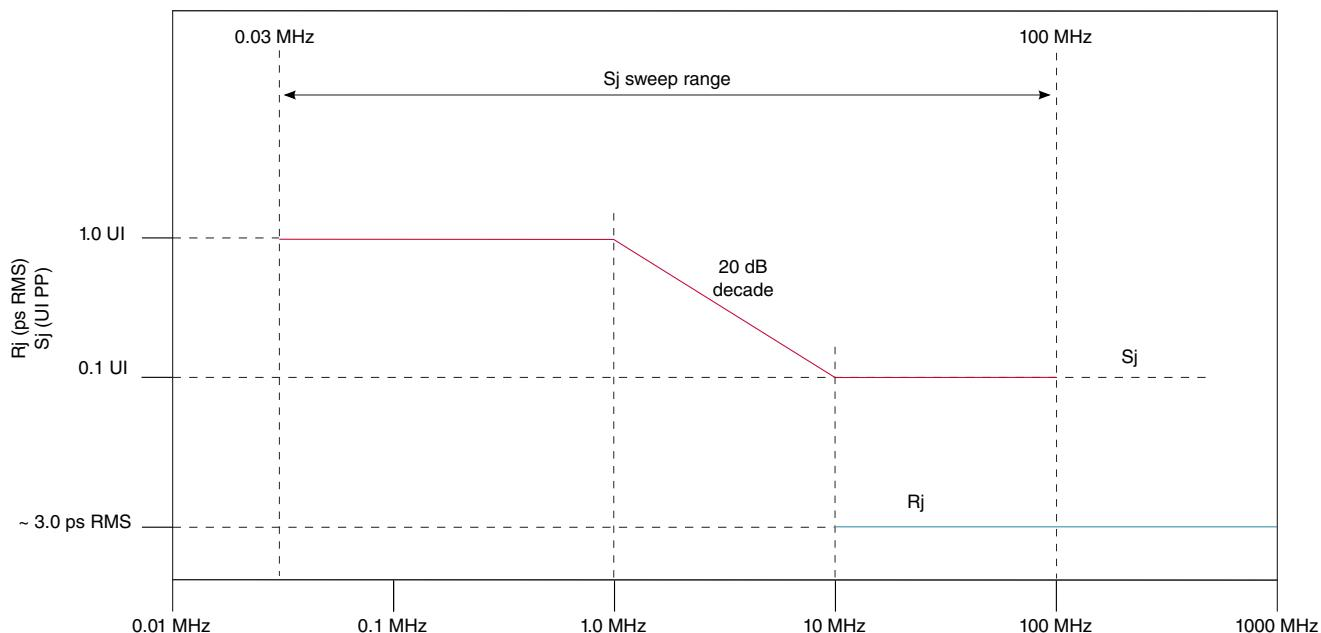

Figure 37. Swept sinusoidal jitter mask
3. The sinusoidal jitter in the total jitter tolerance may have any amplitude and frequency as shown in Figure 37.
4. Random jitter (R_j) is applied over the following range: The low frequency limit may be between 1.5 and 10 MHz, and the upper limit is 1.0 GHz. See Figure 37 for details. R_j may be adjusted to meet the 0.3 UI value for $T_{RX-SV-8G}$.